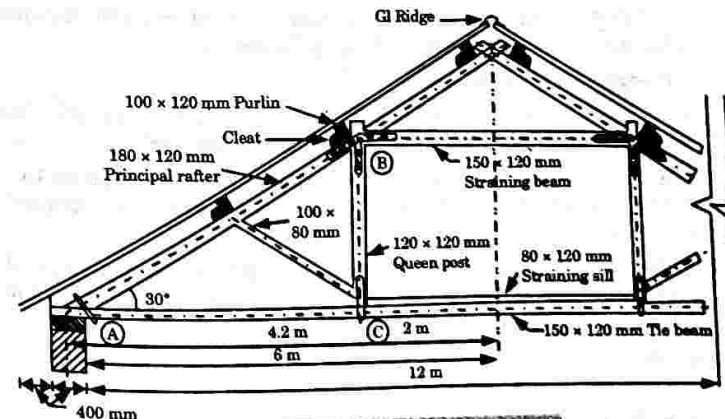

Fig. 4.11.4. Queen post truss.
- viii. This truss can be used over spans varying from 9 m to 14 m. Queen post truss, is shown in Fig. 4.11.4.